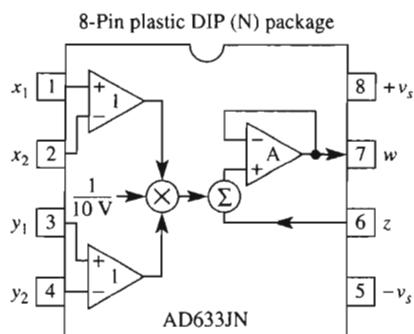

FIGURE 12-1 Introduction to the multiplier.
Analog multipliers are arrangements of op amps and other circuit elements available as an integrated circuit. Multipliers are easy to use; some of their applications are (1) measurement of power, (2) frequency doubling and shifting, (3) detecting phase-angle difference between two signals of equal frequency, (4) multiplying two signals, (5) dividing one signal by another, (6) taking the square root of a signal, (7) squaring a signal, and (8) designing nonlinear signal conditioning circuits. Another use for multipliers is to demonstrate the principles of amplitude modulation and demodulation. The schematic of an AD633 multiplier is shown in Fig. 12-1(a). The device is a four-quadrant analog multiplier. It has high input impedance, which makes signal source loading negligible. Power supply voltages can range from ± 8 V to ± 18 V. No external components or user calibration are required. The output voltage is a scaled version of the x and y inputs. The *scale factor* is explained in Section 12-1.
The 8-pin mini-DIP housing and internal schematic of the AD633 multiplier is shown in Fig. 12-1(a). In general terms, the output voltage V_o is expressed by,